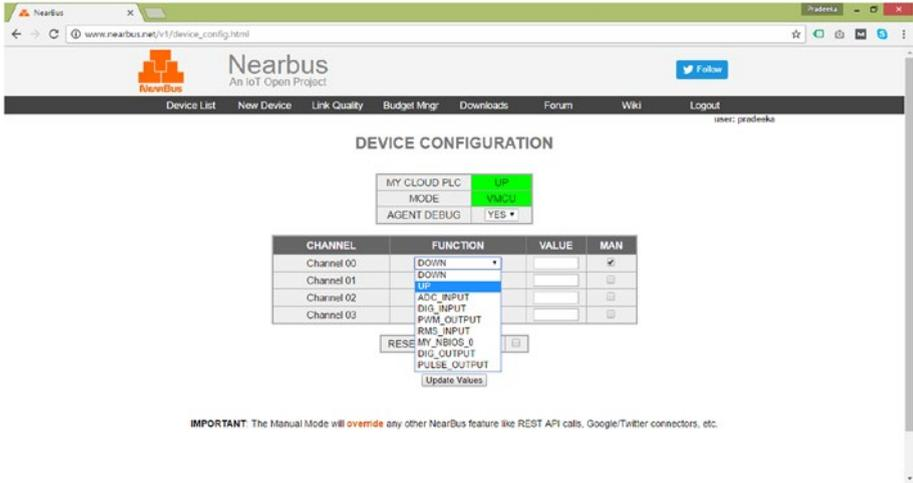

Figure 8-7. The Device Configuration page
3. Now you're going to control the **Grove LED** connected to the *Grove port D3*. In channel 00, select the **MAN** checkbox and select **UP** from the **FUNCTION** drop-down list, as shown in Figure 8-7. The NearBus cloud will send the UP command to the Arduino and the Grove LED will turn on. This is the same as executing the function `digitalWrite(3, HIGH)` on digital pin 3.